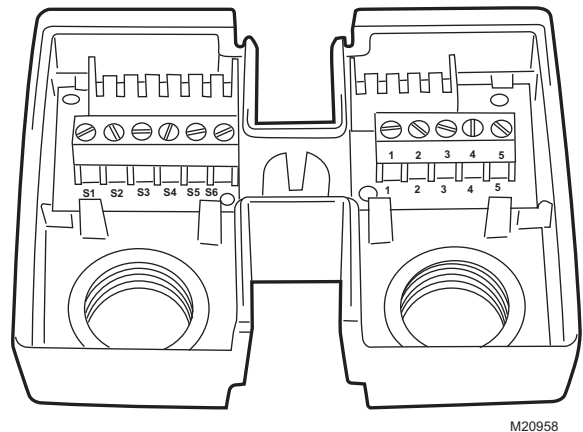
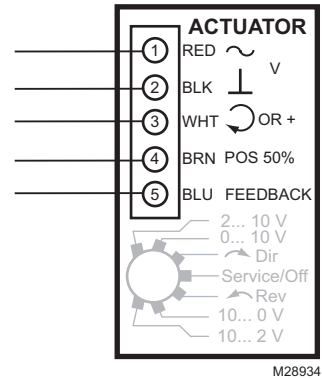

Fig. 10. Terminal block details.
Fig. 27. MS7510W2008/2206; MS7520W2007/2205 Floating Modulating.
6. Connect wires as appropriate to the terminal block(s). (See Fig. 10 and 11.)
See Fig. 10 through 26 for typical wiring details for actuators without cables (whips). See Fig. 27 through 29 for wiring actuators with cables (whips).
See Fig. 27 through 29 for wiring actuators with cables (whips). See Fig. 10 through 26 for typical wiring details for actuators without cables (whips).